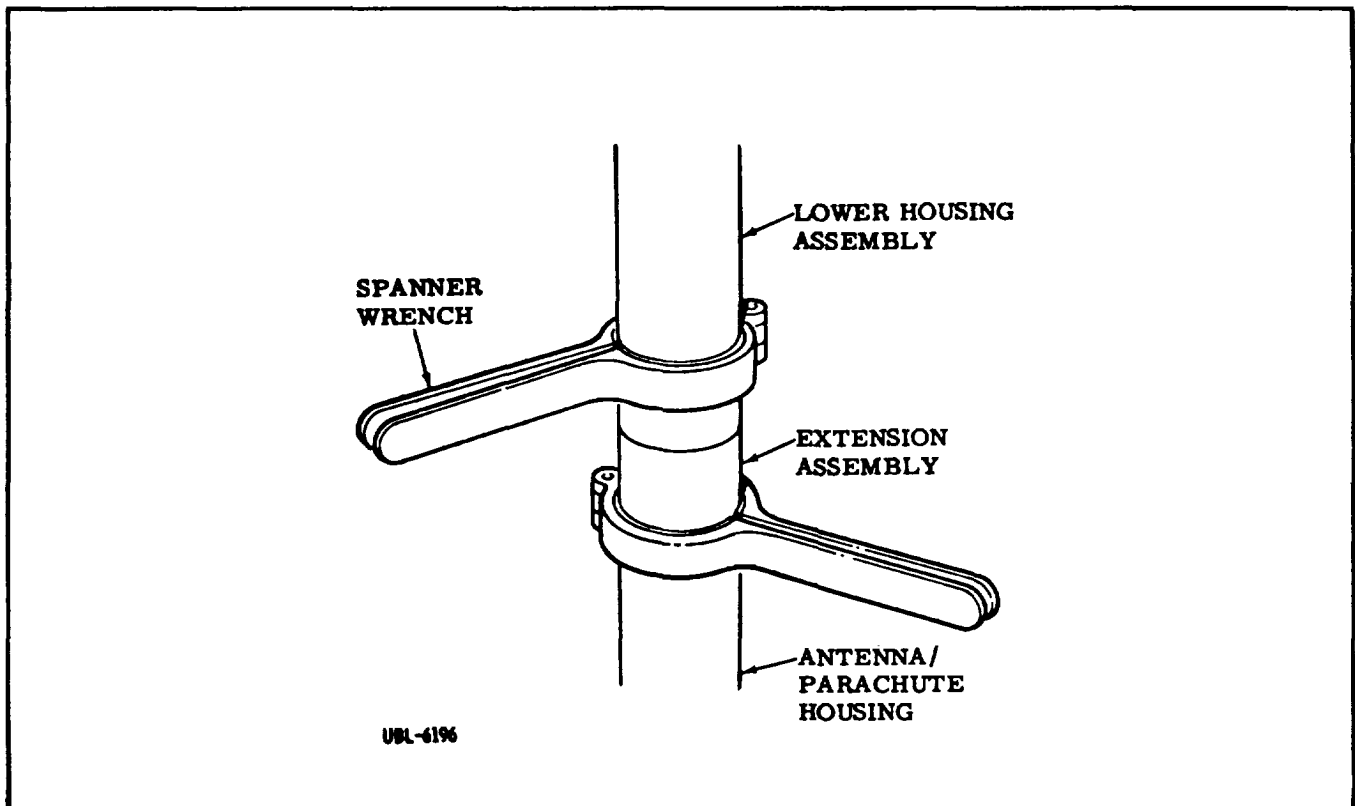

Figure 4-3E. MA56 EX
h. Install lower housing assembly with attached end cap. Use spanner wrenches (figure 4-3E) to screw housing onto extension assembly until secure; the quad-X-seal will be covered.